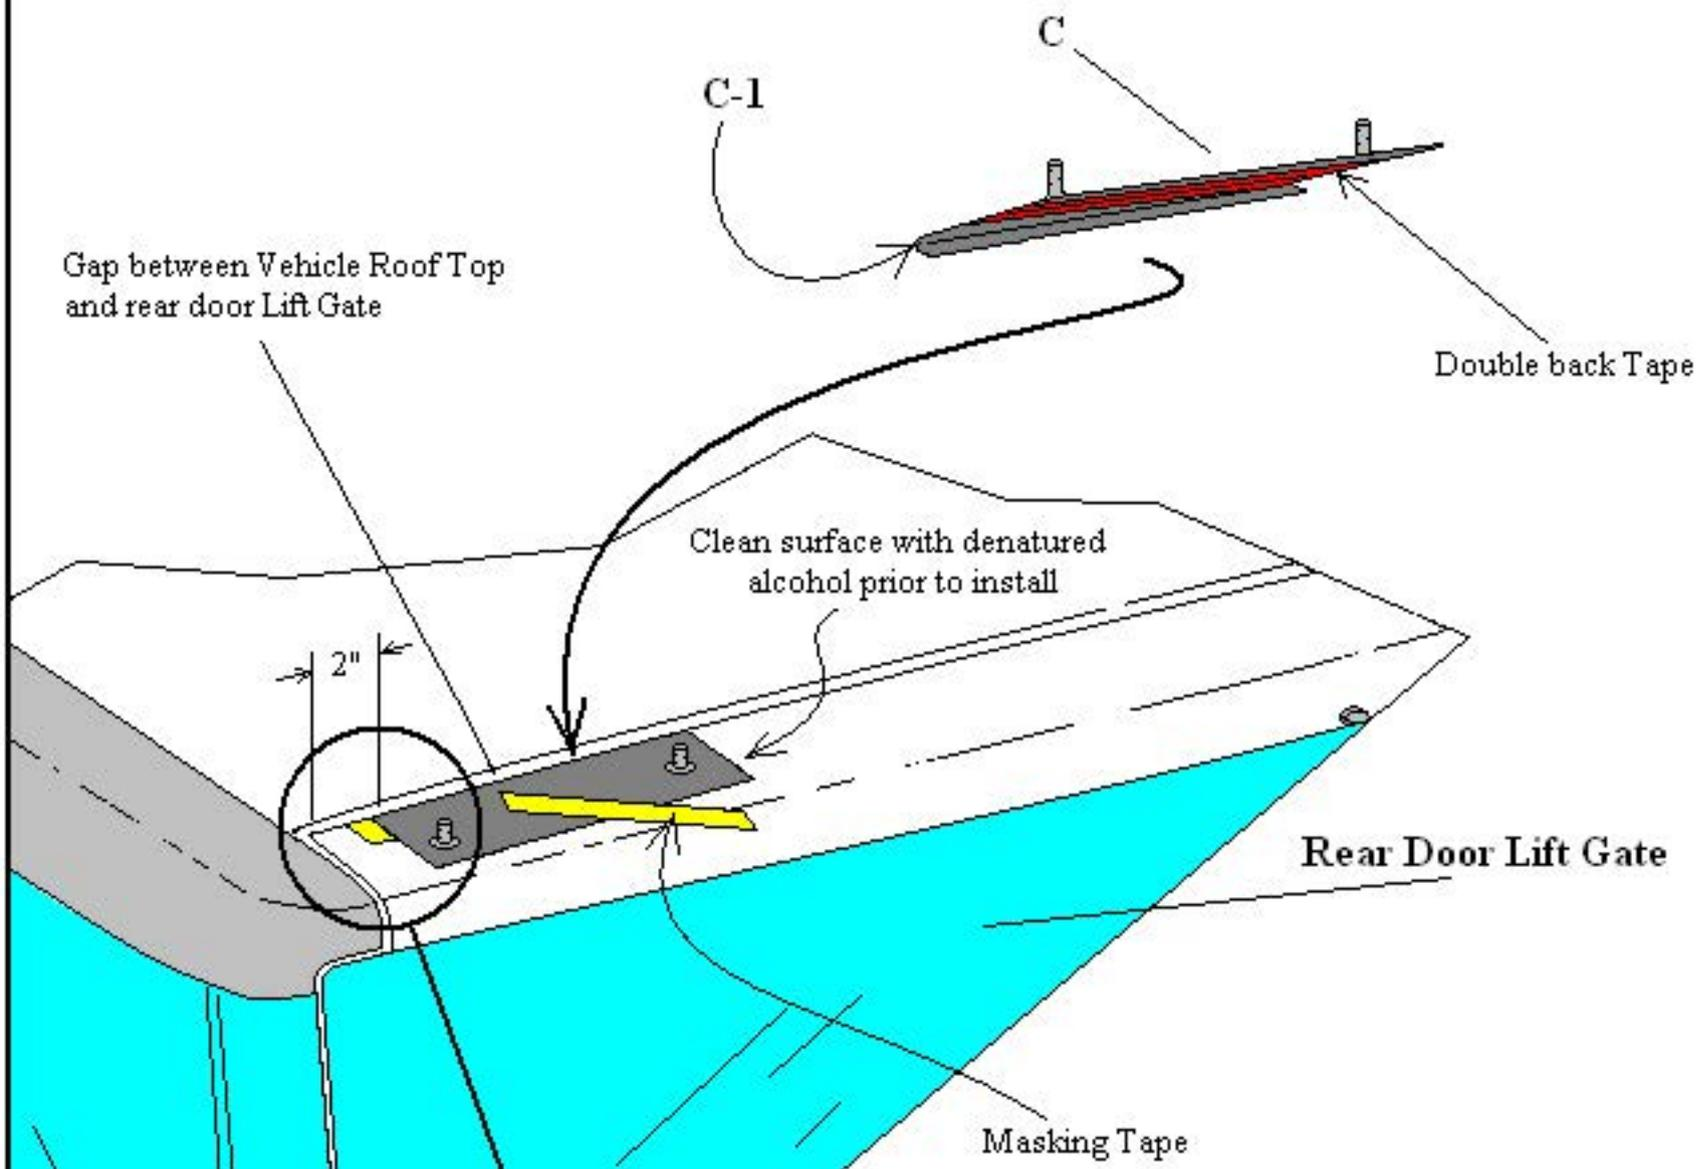
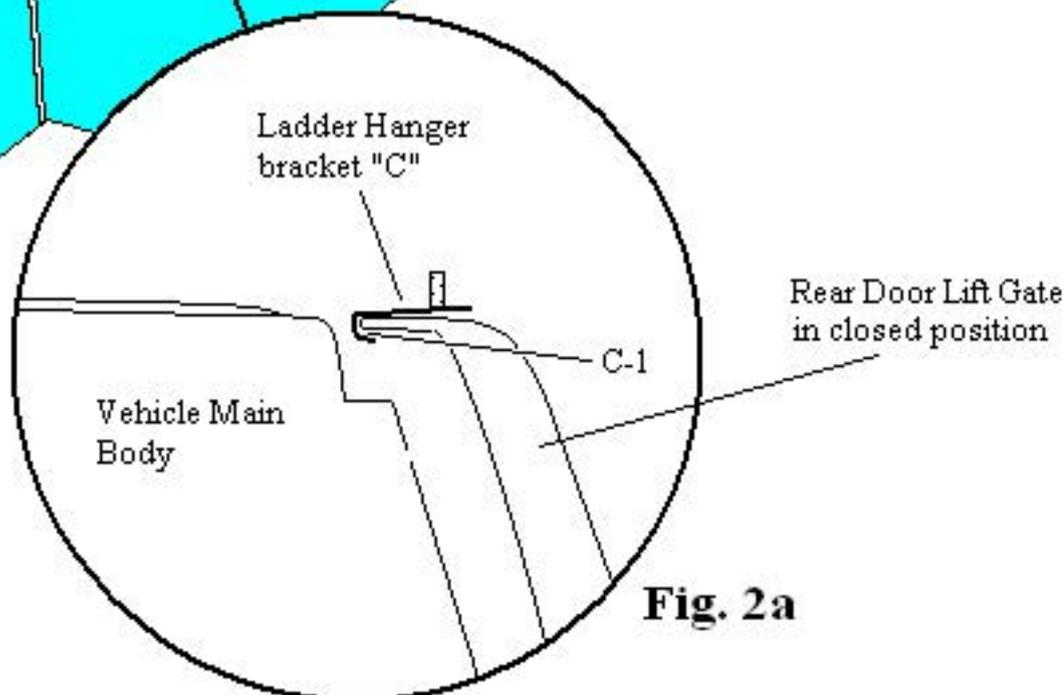

Fig. 2
Fig. 2a
- 2- Refer to page 5 using masking tape or the like attach a piece of tape as shown in Fig. 2 at the top of the rear door lift gate approximately (2") from the driver side outer roof top rubber molding edge.
- 3- Refer to page 3 and remove ladder hanger bracket "C" from your parts kit. *"Do not peel off the double back protective film at this time"*. Refer to page 5 carefully slide hanger bracket "C" as shown in Fig. 2 and exploded view Fig. 2a between the gap of the upper rear door lift gate and the main vehicle body. Once bracket "C" has been slipped into the gap align the left edge of the ladder hanger bracket with the masking tape mark and pull the hanger bracket "C" so that the inside edge "C-1" is up against the rear lift gate door edge as shown in exploded view Fig. 2a. Use an additional piece of masking tape to hold down bracket "C" from moving temporarily at this time.
- 5- Refer to page 5 and remove the ladder hanger bracket "C" from the door, clean the surface area where the ladder hanger bracket is to be attached with denatured alcohol. Peel off the protective double back tape film and re-fit ladder hanger bracket "C" back in place and be sure that the inner edge "C-1" is in full contact with the rear door lift gate's upper edge as shown in Fig. 2a. Once in place press down firmly and hold for at least 30 seconds.